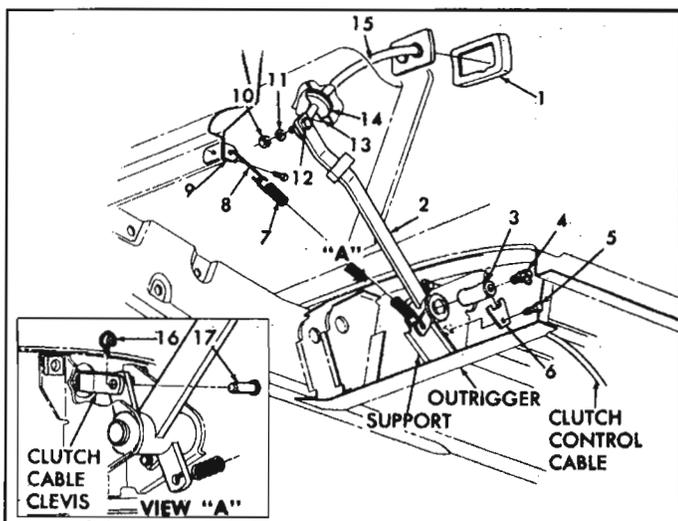

Fig. 6B-13—Clutch Pedal and Linkage
1. Remove retainer clip from each end of clutch cable clevis (20) (fig. 6B-12) and (16) (fig. 6B-13).